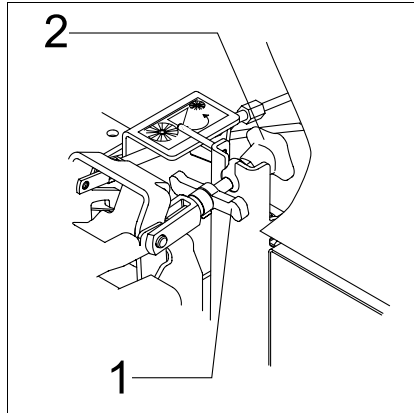

Fig. 12 Broom adjustment
The sweeping track width can be adjusted by the star knob (Fig. 12/1) as follows:
- Loosen handle (Fig. 12/1)
- Turns star knob (Fig. 12/2)
- Fix handle (Fig. 12/1)